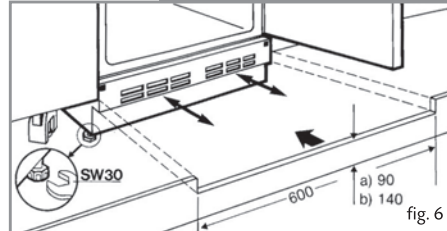

fig. 6
Adjusting the plinth depth (figure 6)
7. Holding the door, swing the lower door hinge away from the door using the other hand, then detach the door from the appliance body (Fig. 6).